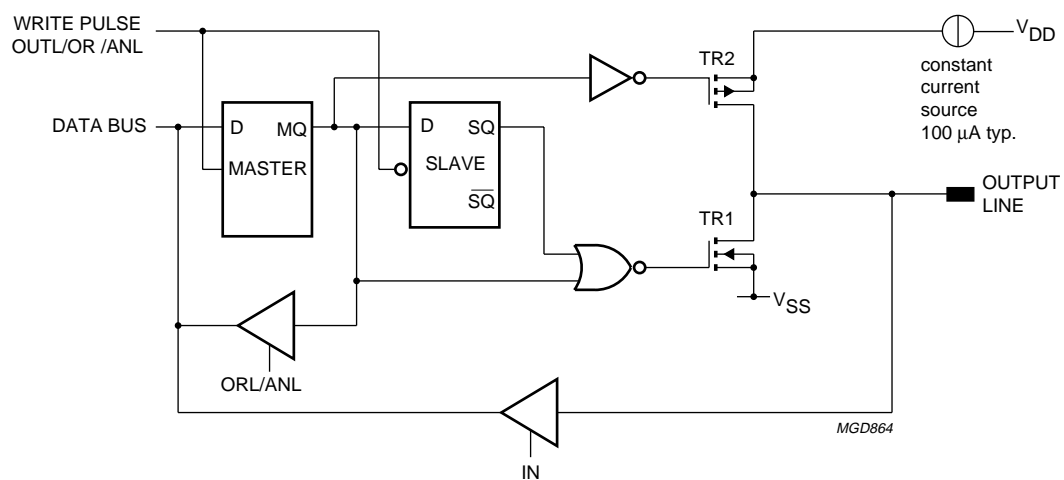

Fig.17 Push-pull type output (Option 3).
- Option 3 Push-pull (output only), Fig.17.